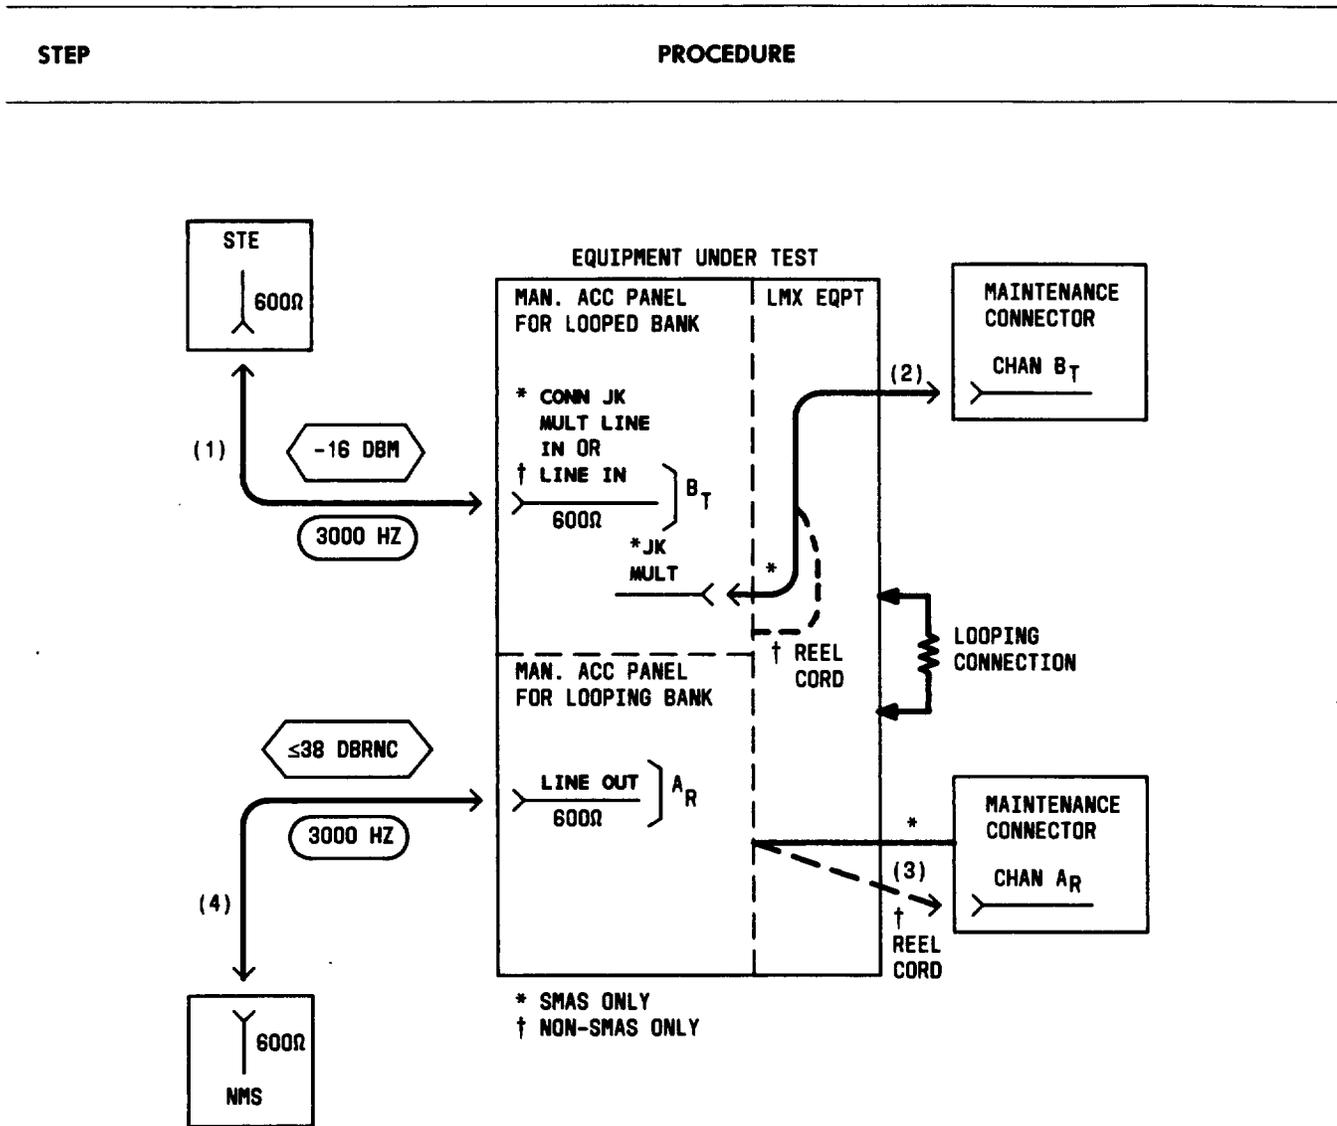

Fig. 15—Patching Diagram—Crosstalk Test—Equal-Level Looping—Lower Adjacent Channel (3000 Hz)
15a*	Connect the JK MULT connector (on the 22AR or AT MAP) to the CHAN BANK connector (on the maintenance connector) for the looped channel designated Br for Test A in Table F [patch (2), Fig. 15].
- 15b† On the adjacent non-SMAS J98626() frame, connect the retractable cord (on the 22AU MAP) to the CHAN BANK connector (on the maintenance connector on the frame under test) for the *looped* channel designated B_T for Test A in Table F [patch (2), Fig. 15].
- 16b† Connect the retractable cord (on the 22AU MAP) to the CHAN BANK connector for the *looping*-channel position designated A_R for Test A in Table F [patch (3), Fig. 15].
18	Connect the NMS to the LINE OUT jack [patch (4), Fig. 15].
22	Remove patch (2), Fig. 15 [and patch (3), if used] from the maintenance connector(s). Note: If the J98622AR or AT manual access panel is used, patch (4) must be removed from the LINE OUT jack.